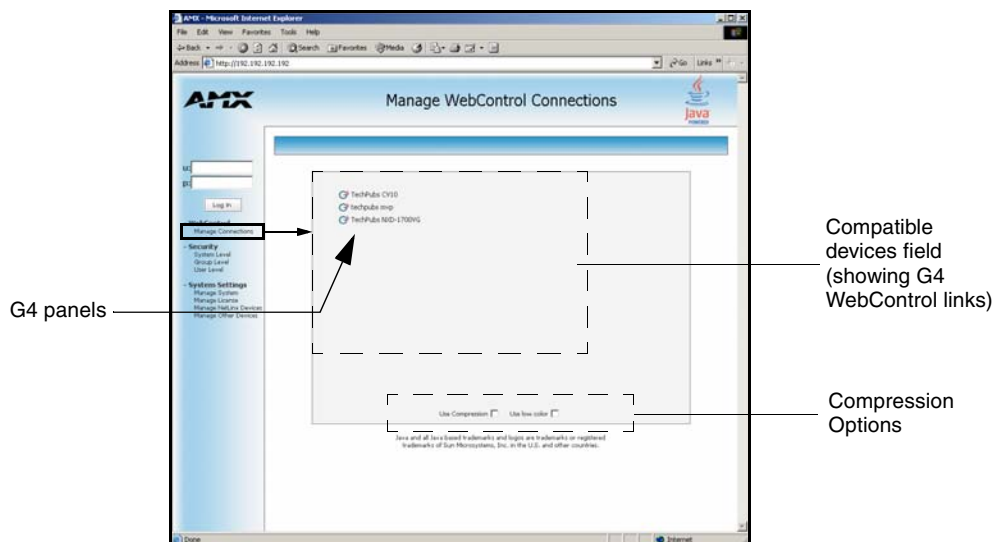

FIG. 90 Manage WebControl Connections page (populated with compatible panels)
5. This Manage WebControl Connections page (FIG. 90) is accessed by clicking on the **Manage connections** link (*within the Web Control section within the Navigation frame*). Once activated, this page displays links to G4 panels running the latest G4 Web Control feature (*previously setup and activated on the panel*).